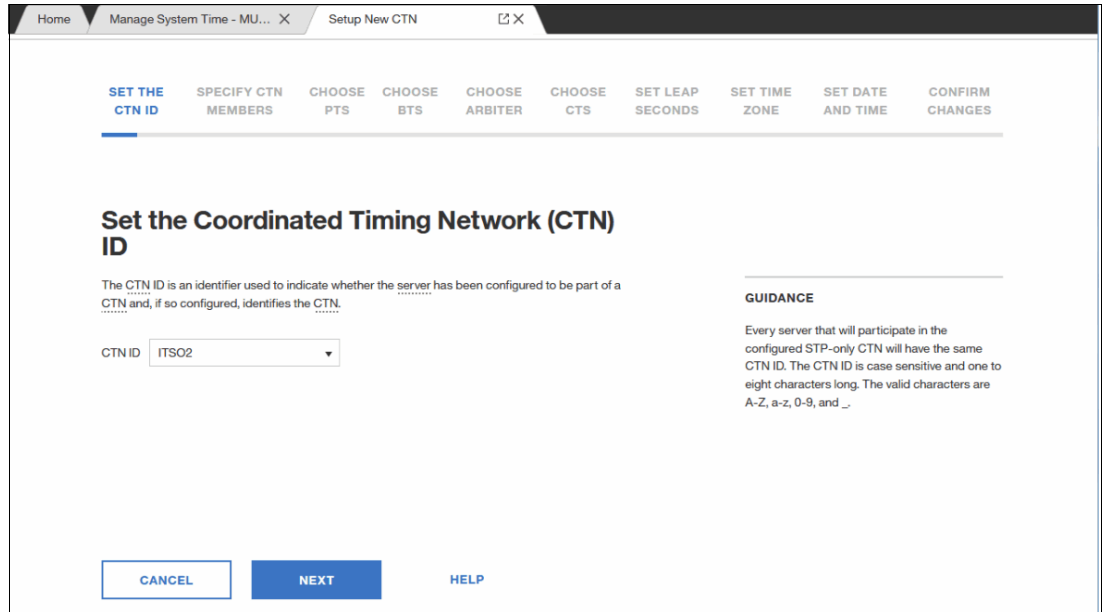

Figure 8-34 Setting the Coordinated Timing Network (CTN) ID
3. The Set the Coordinated Timing Network (CTN) ID window opens. Enter the CTN ID in the column. Click **NEXT** to continue (see Figure 8-34).